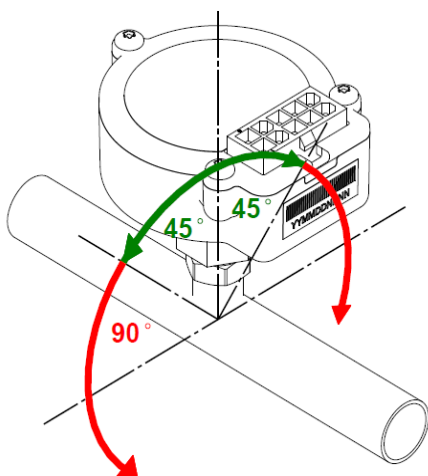
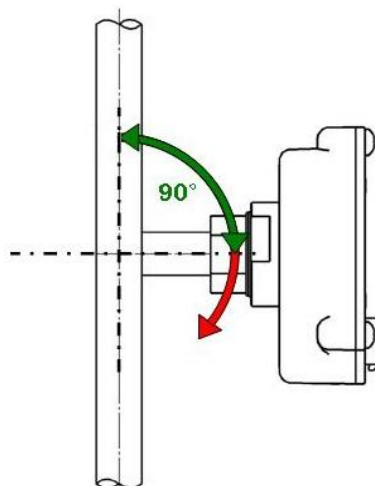

Figure 2-3: USHX installation orientation on a horizontal copper line
Figure 2-4: USHX installation orientation on a vertical copper line
3. See **Figure 2-3** and **Figure 2-4** below for the proper orientation of the USHX. When installing the device on a horizontal copper line as shown in **Figure 2-3**, the USHX can only be installed up to a 45° angle from the vertical axis in either direction (represented by the curved green arrows). When installing the device on a vertical copper line as shown in **Figure 2-4**, the USHX cannot be installed at a downward angle (represented by the red arrow).